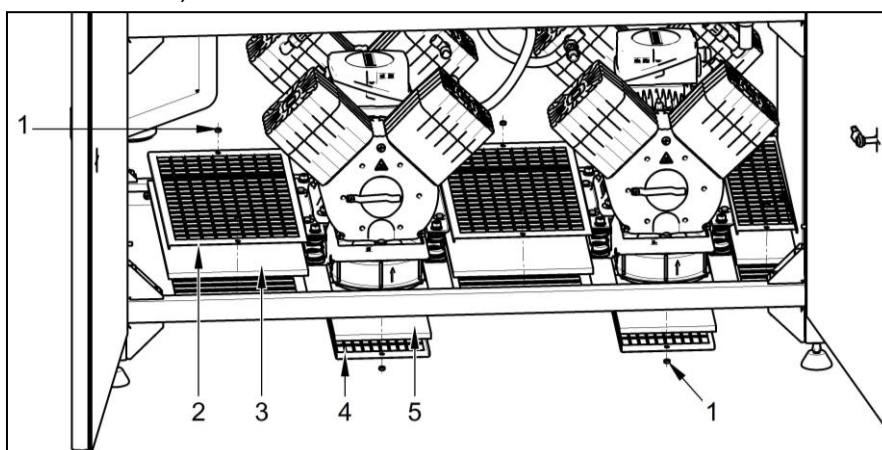
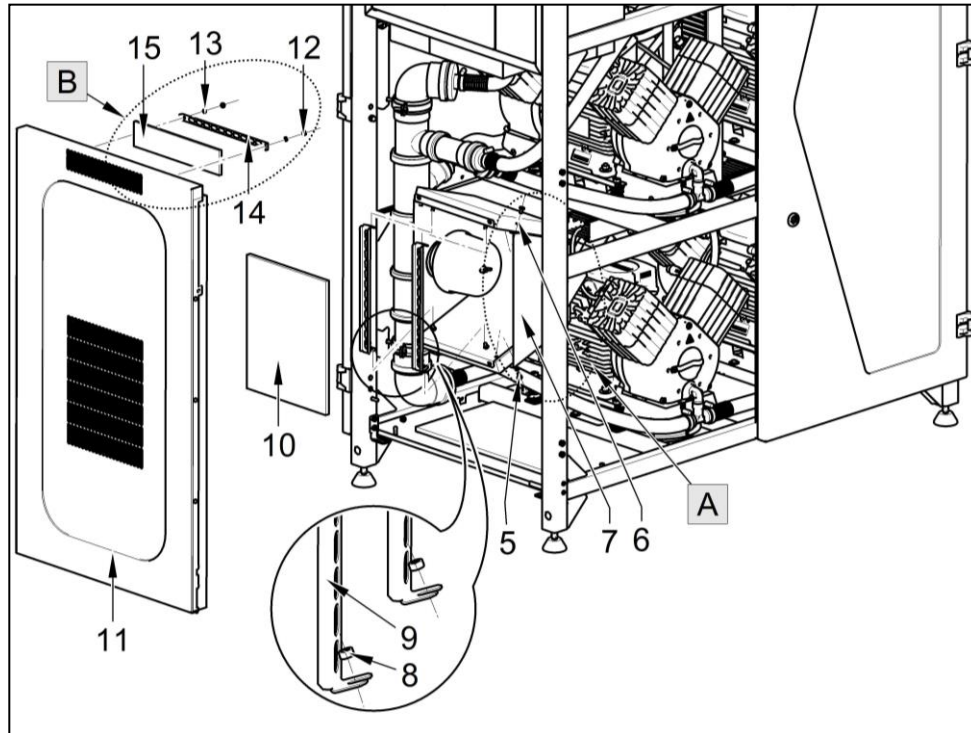

Fig.21
Fig. 22
(Fig.21, Fig. 22)
- Remove the nuts (1) and covers (4) on the lower part of the enclosure beneath the aggregates two times and remove the filters (5).
- Remove the nuts (1) and covers (2) inside the enclosure three times and remove the filters (3).
- In Point A, remove the foam, remove the 4 screws (5), washers (6) and remove the suction filter cover (7). – (Fig. 22)
- Remove the 2 nuts (8) on the filter bracket (9) and remove the filter (10).
- In Point B (on the sides (11)), remove the 2 nuts (12), washers (13), release the filter bracket (14) and remove the filter (15).